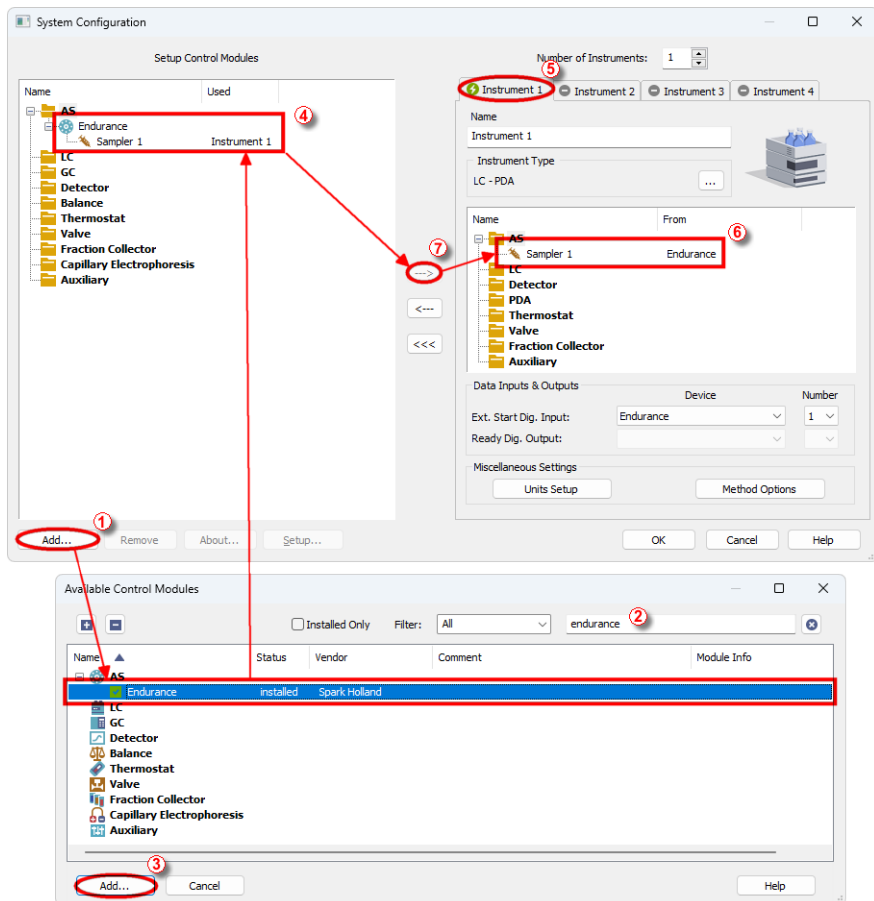

Fig. 5: System Configuration
- Press the *Add* button ① (see Fig. 5 on pg. 6.) to invoke the *Available Control Modules* dialog.
- You can specify the searching filter ② to simplify the finding of the driver.
- Select the **Endurance** sampler and press the *Add* ③ button.